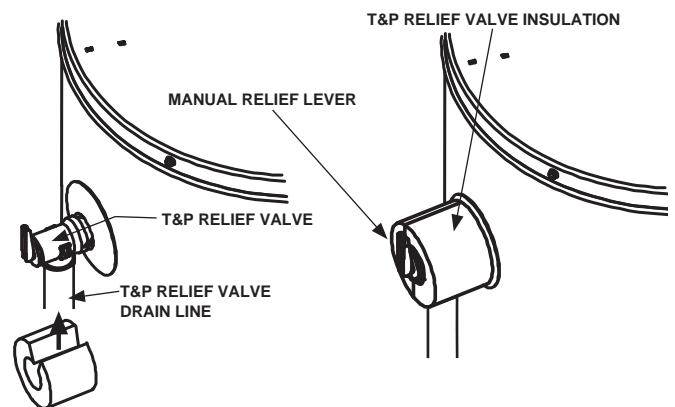

FIGURE 15B.
3. Spread this slit open and slip it up under the T&P Relief Valve. See Figure 15B. Apply gentle pressure to the insulation to ensure it is fully seated on the T&P Relief Valve. Once sealed secure the insulation with a section of tape.